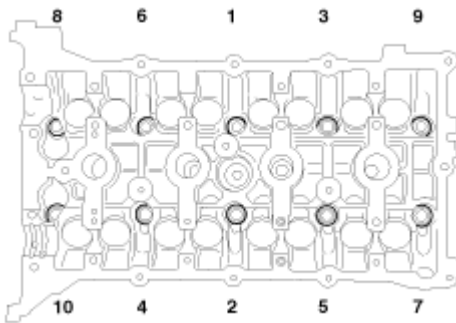

Fig. 36: Identifying Tightening Sequence Of Cylinder Head Bolts
- B. Using hexagon wrench, install and tighten the 10 cylinder head bolts and plate washers, in several passes, in the sequence shown in **Fig. 36**.